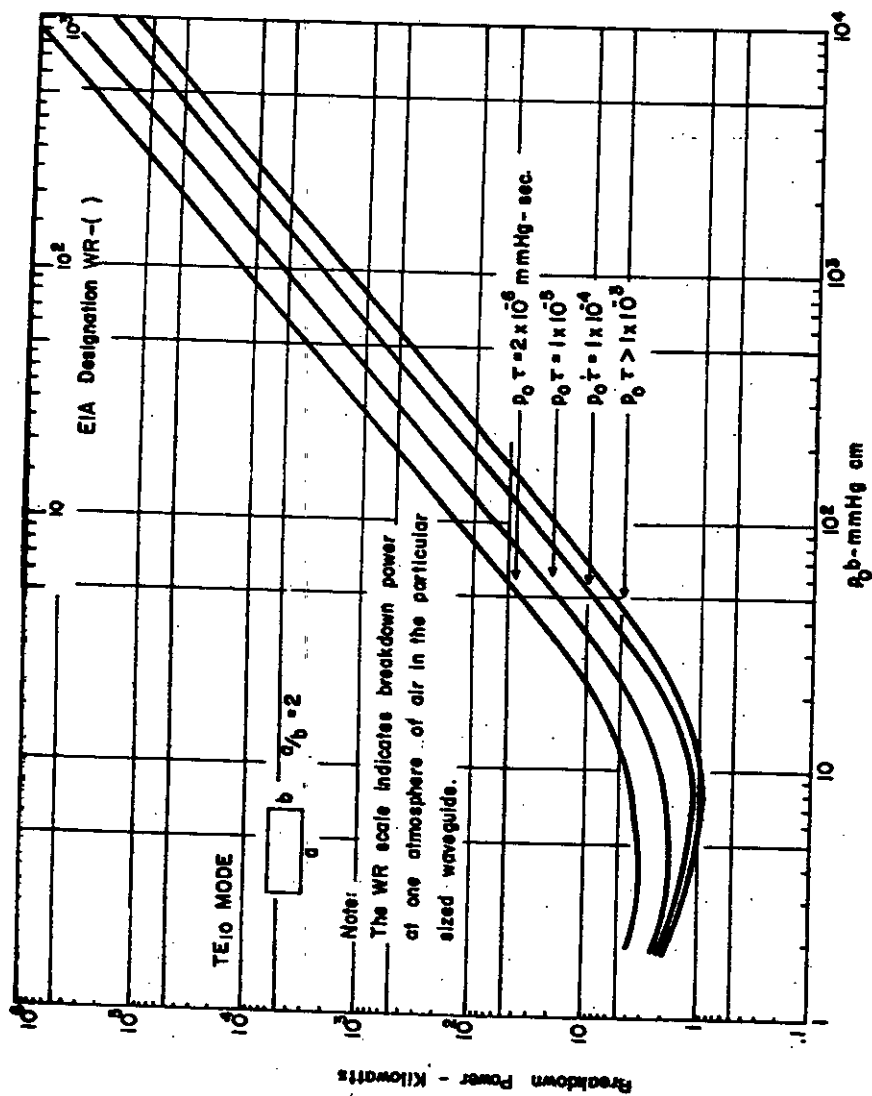

FIGURE 6.7. Single pulse breakdown power for air filled standard waveguides.
6.2.7 Heavy wall waveguides. The recent introduction of very high power radars has led to the use of heavier than normal wall thickness waveguide. High power operation usually required that a waveguide be pressurized to high pressures in order to prevent dielectric breakdown (see figures 6.7 and 6.8). A thicker wall is needed to limit deformation under pressure. Tables 6.XI through 6.XIII describe the heavy wall waveguides presently in use in military electronic systems.